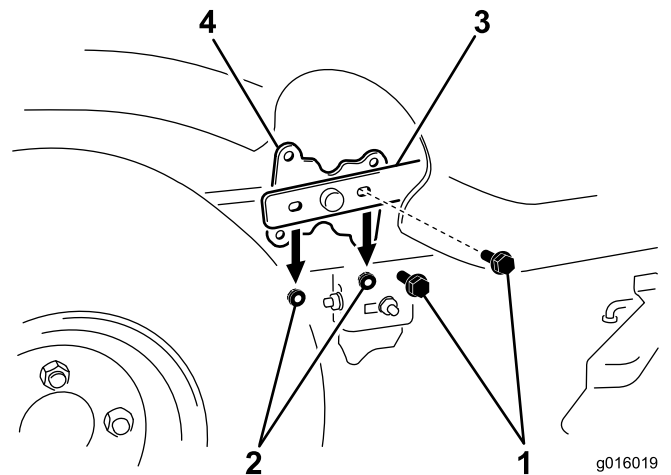

Figure 2
1. Under the right pod, locate the lift arm and lift lever (Figure 2).
2. Remove the fasteners securing the lift arm to the lift lever face (Figure 2).